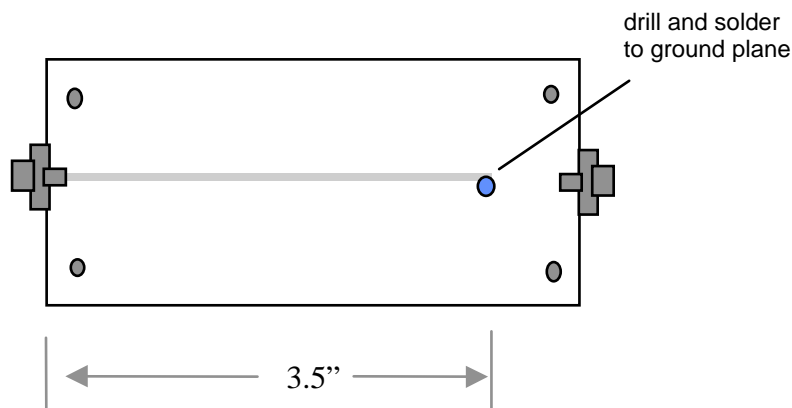

Fig. 3. Example: microstrip shorted stub.
1. Quarter wave impedance transformer. Design, build and evaluate a quarter-wave series microstrip line impedance transformer to match a shunt 15 ohm chip resistor to 50 ohms at 450 MHz. Use the layout shown in Fig. 3 to terminate the microstrip line. Measure and plot the magnitude and phase of S_{11} on rectangular plots with frequency swept from 50 (or 130) to 500 MHz. Place markers at 450 MHz and at the actual quarter wave frequency. Also plot VSWR over the same frequency range. This can be done on ADS.